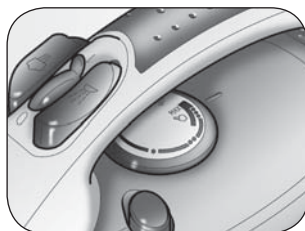

Fig. 5
- 3 Select the desired temperature by turning the temperature adjustment knob (J), lining it up with the reference (XI) on the iron (Fig. 5).
- 4 The temperature control lamp (H) turns on.